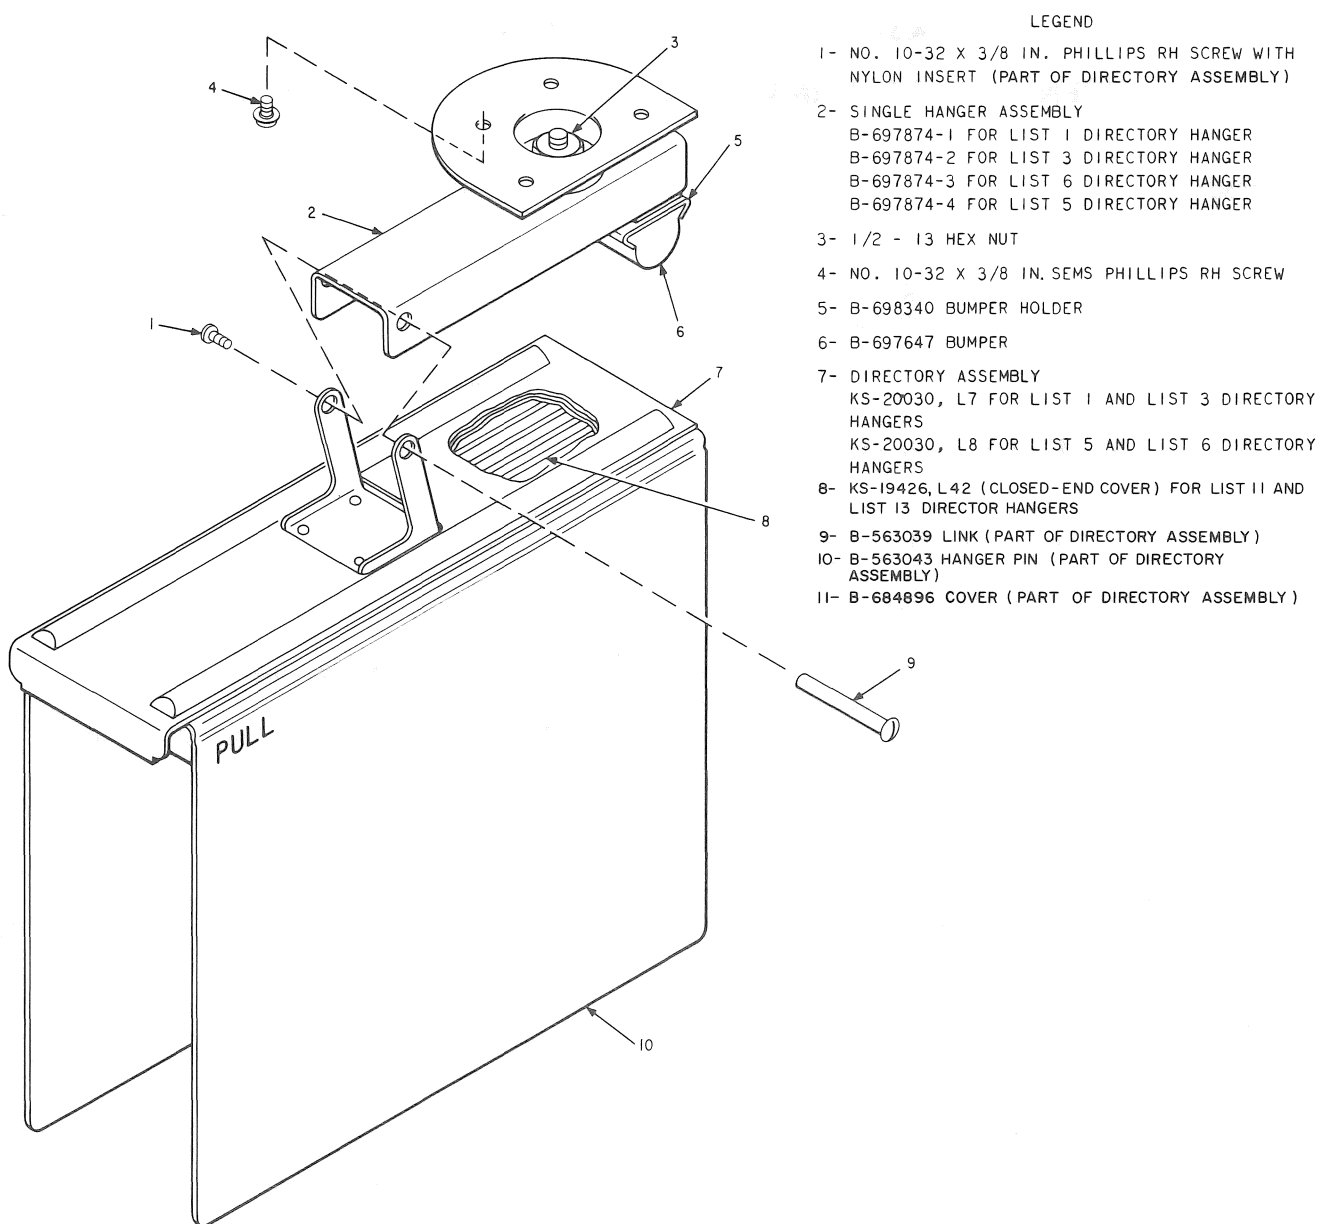

Fig. 1—KS-20030 Directory Hanger (Typical for Single Binder)
1.01 The KS-20030 directory hangers (Fig. 1 and 2) are universal hangers designed for use with various coin telephone booths and shelves.